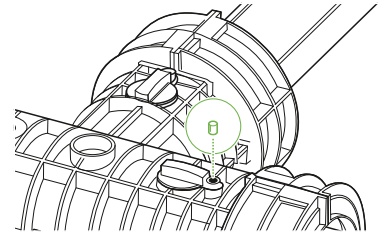

Fig. B12.1.11
10. Wait approximately 10 minutes for the PUR foaming and curing. Close the air vent with rubber cap (Fig. B12.1.11).